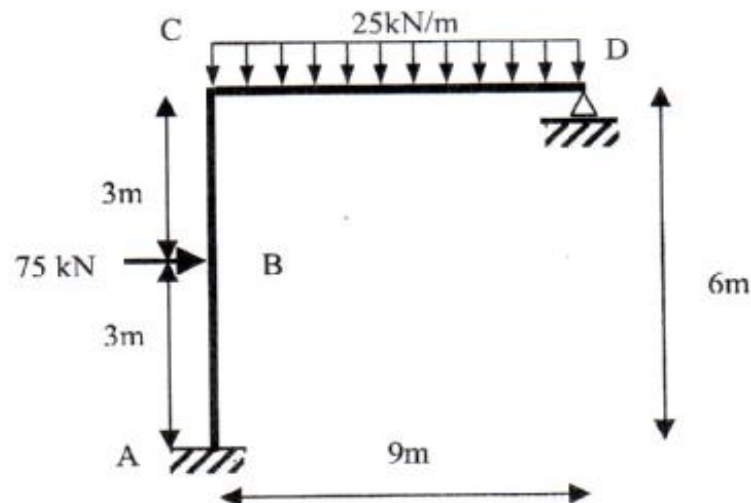

Fig. 4
4. Figure 4 shows a frame carrying a horizontal load of 75 kN is applied at joint B and span CD carrying a uniformly distributed load of 25 kN/m. Support A is fixed and support D is pinned. EI value for all member is constant, value of $E = 200$ GPa and value of $I = 400 \times 10^6 \text{ mm}^4$. Using the Slope Deflection Method, calculate the bending moment at joint A, B, C and D. Hence, sketch the distribution of the bending moment throughout the frame.